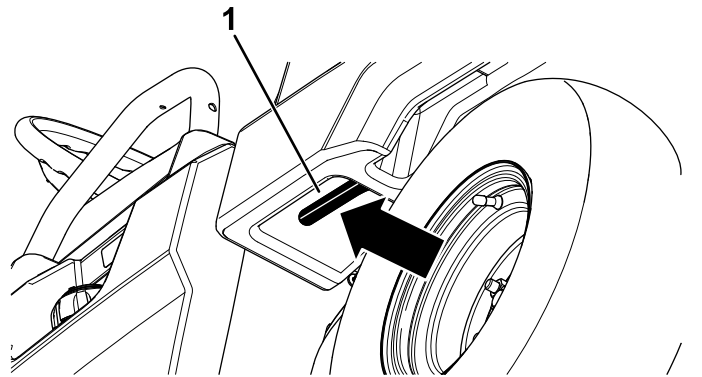

Figure 14
1. Pull the lever on left, inside of the cargo bed toward you and lift the cargo bed up (Figure 14).
1. Raise the cargo bed slightly by lifting up on the latch lever (Figure 14).